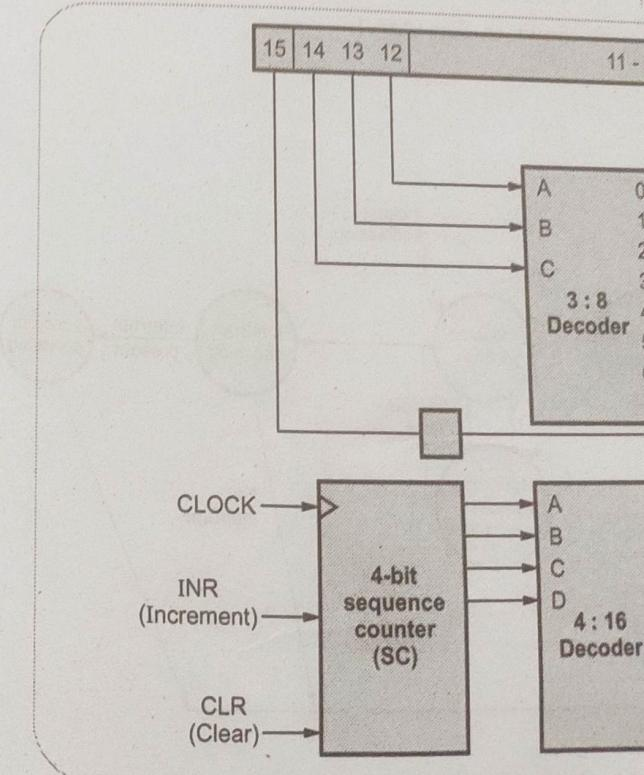

Fig. Q.14.1 (a) Contd.
The Fig. Q.14.1 (a) shows how the instruction in the Instruction Register (IR) is used to generate control signals. The instruction in the instruction register is divided into three fields : I field, operation code field and bits 0 through 11. The 3 : 8 decoder decodes the operation code bits and outputs of this decoder are used as an inputs for combinational logic circuitry. The four bit sequence counter counts from 0000 through 1111, i.e. (0 through 15 in decimal). These four bits are decoded by 4 : 16 decoder to generate timing signals from 0 through 15. The I bit from IR is also connected to the combinational control circuitry. Therefore, combinational control circuitry takes the input from 3 : 8 decoder, 4 : 16 decoder, I bit and bits 0 through 11 to generate control signals.